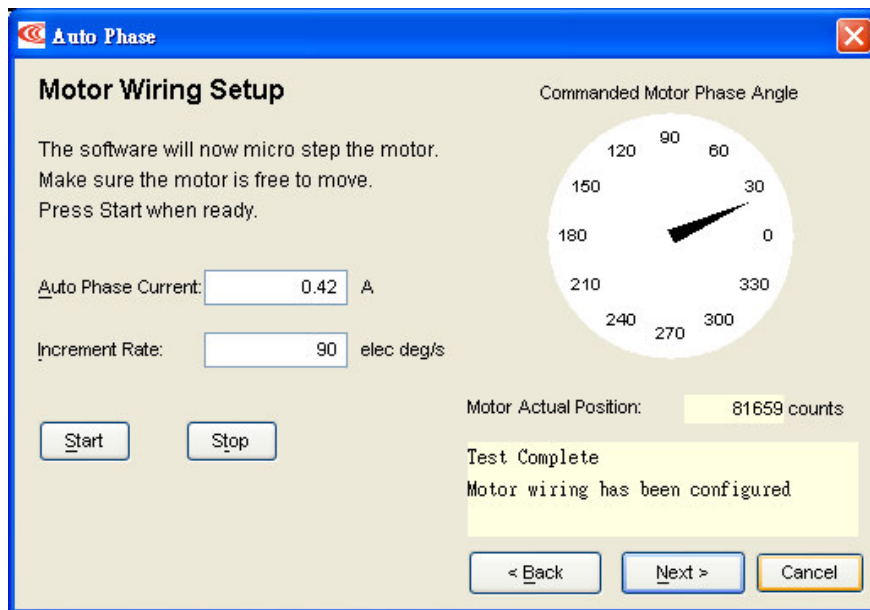

Fig. 14 Motor Wiring Setup
- Press Next and Fig. 14 should appear. In the Motor Wiring Setup menu,